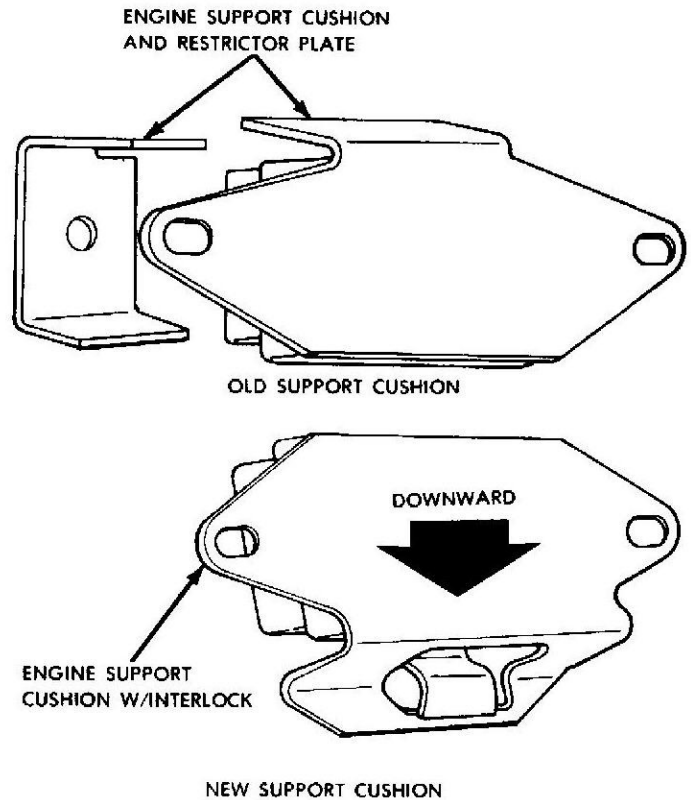

Fig. 1 Right Front Engine Support Cushion
- (1) Raise vehicle.
- (2) Remove right front support cushion stud nut and lockwasher. Discard nut.
- (3) Remove fuel line clamp from right front support bracket.
- (4) Raise and support engine (under oil pan skid plate) to provide sufficient clearance for removal of engine support cushion.
- (5) Remove right front support bracket and support cushion.
- (6) Remove support cushion from support bracket.
- (a) If equipped with a restrictor plate and support cushion, discard plate and cushion (Fig. 1).
- (b) If not equipped with a restrictor plate and support cushion has interlock, retain support cushion (Fig. 1).
- (7) Position support bracket in a vise with support cushion mounting holes facing outward.